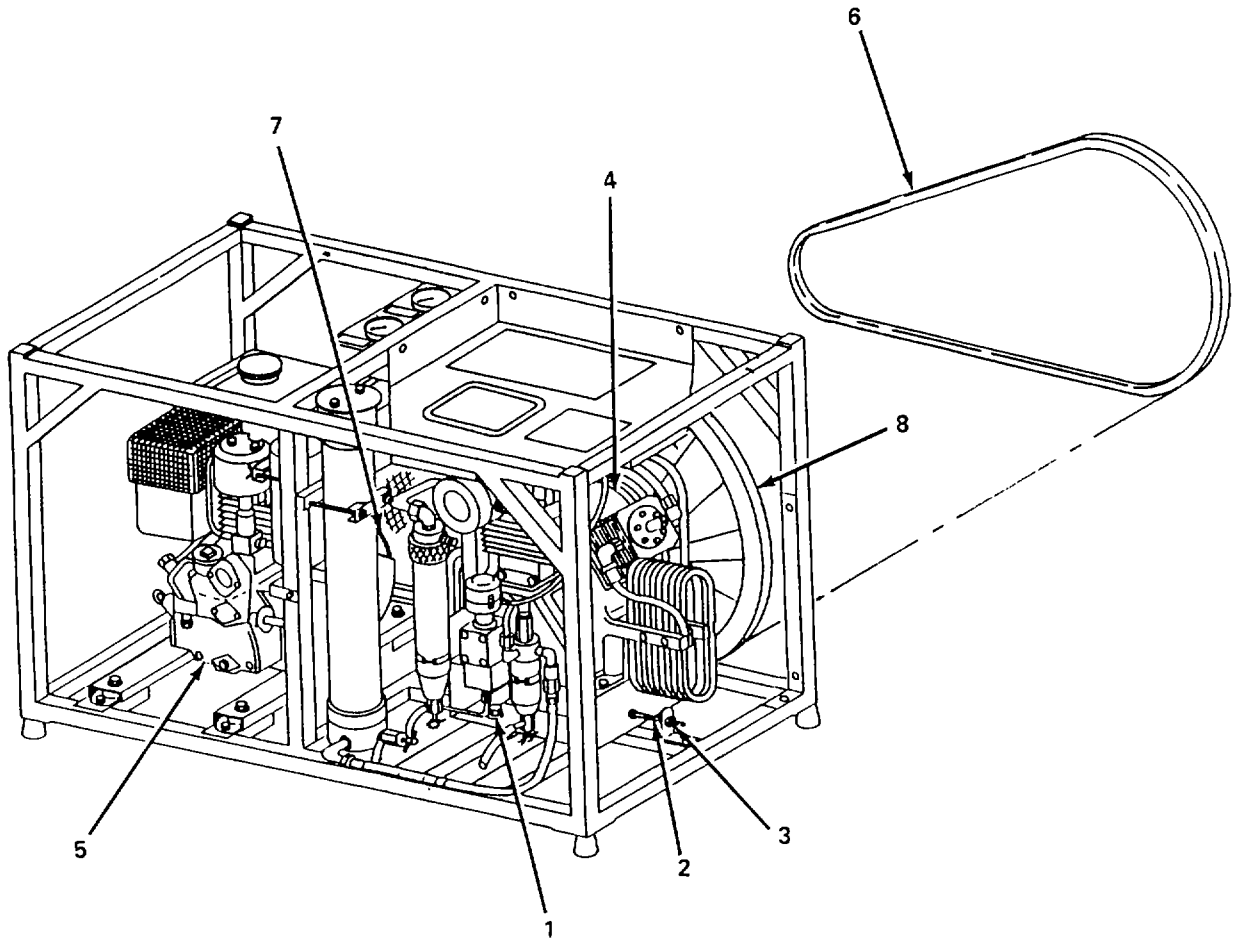

Figure 4-2. Compressor Drivebelt, Replace.
**Replace.** (figure 4-2)
- (1) Loosen four nuts (1).
- (2) Loosen nut (2) and nut (3).
- (3) Slide compressor (4) toward engine (5) and remove belts (6).
- (4) Install two new belts (6).
- (5) Tighten nut (3) to move compressor (4) away from engine (5) until firm push at a point midway between engine pulley (7) and compressor pulley (8) deflects the belts (6) 0.50-0.75 in. (12.7-19.2 mm).
- (6) Place a straight edge across the face of compressor pulley (8) and engine pulley (7). Ensure the pulleys are parallel to within 1/16 in. (1.58 mm). Adjust position of compressor (4) to obtain the parallel condition.
- (7) Tighten nut (2).
- (8) Tighten four nuts (1).